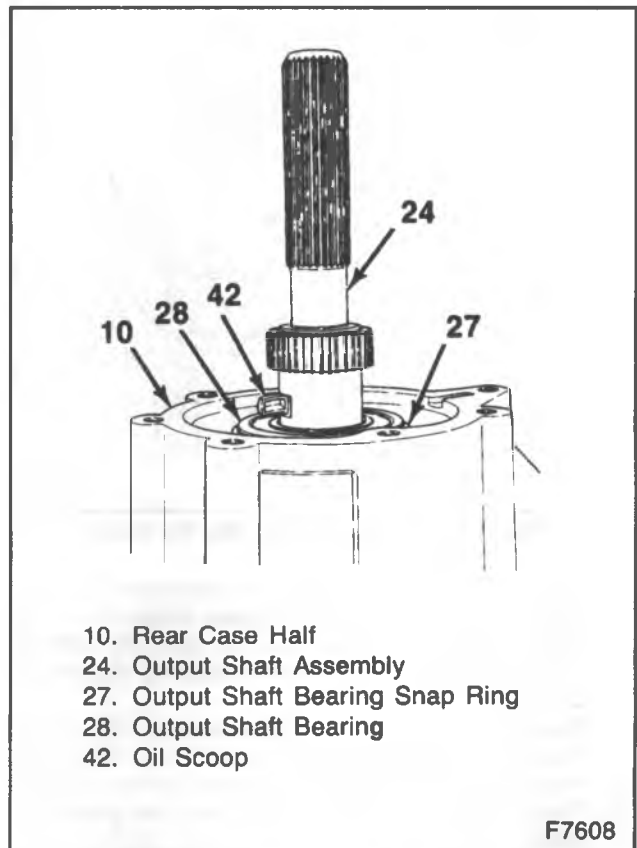

Figure 16—Installing the Output Shaft Bearing Snap Ring
2. Output shaft bearing snap ring (27) to the Output shaft bearing (28) (Figure 16).
3. Apply an 1/8 inch bead of Gasket Eliminator PT-7276 (Loctite 51580) or equivalent to the rear case half (10) extension housing sealing surface.
4. Extension housing (8) and the extension housing bolts (25) to the rear case half (10).